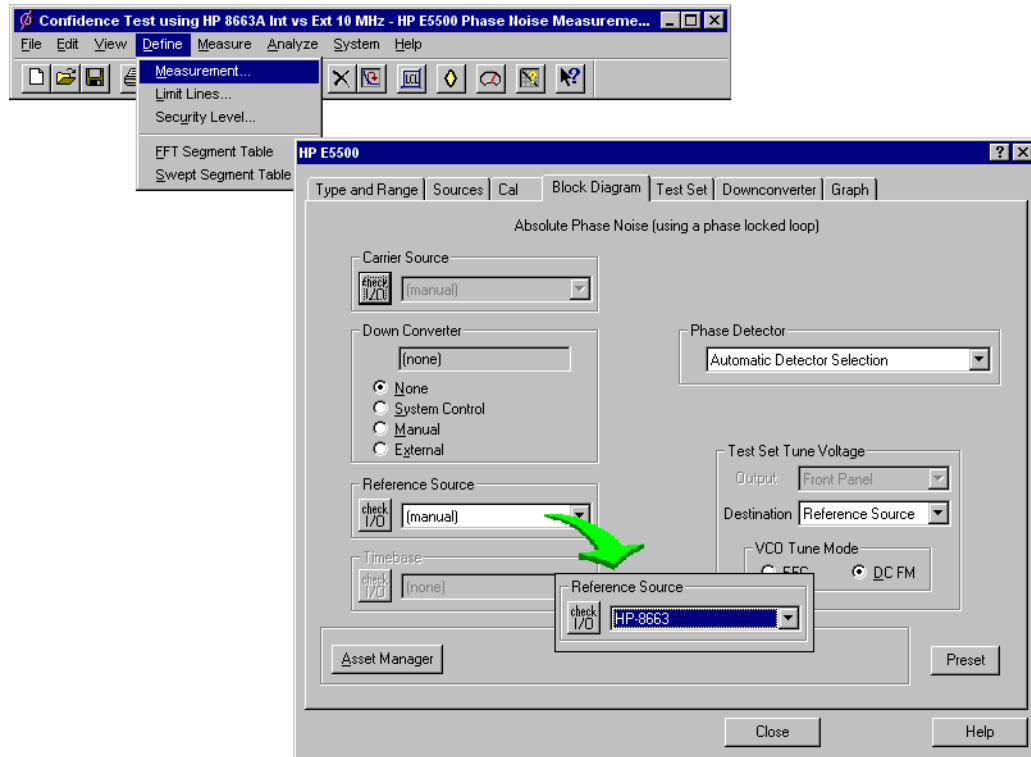

Figure 7-14 Selecting a Reference Source
- 1 Using Figure 7-14 as a guide, navigate to the **Block Diagram** tab.